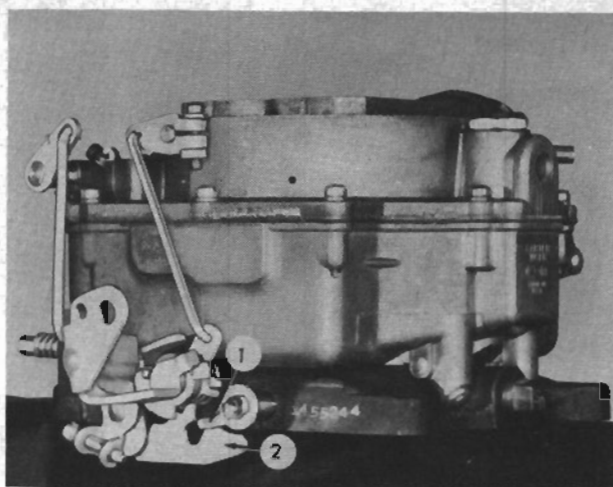

FIG. 108
Crack the throttle valves and hold the choke valve closed tightly. Then close the throttle. The tang (1, Fig. 108 on the secondary throttle lever should engage the notch of the lockout lever (2). If necessary to adjust, bend the tang on the secondary throttle lever.